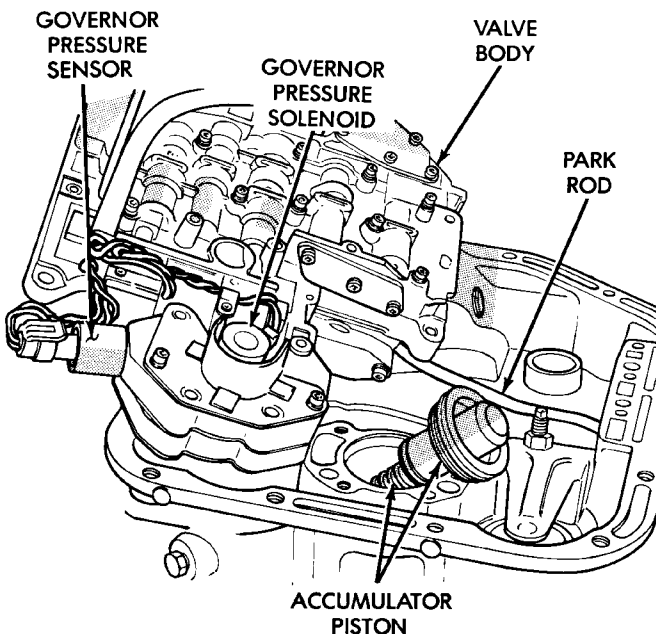

Fig. 127 Accumulator Piston And Springs
(30) Install accumulator piston and inner and outer springs (Fig. 127).
(31) Verify that valve body solenoid harness is secured in 3-4 accumulator housing cover plate.
(32) Install valve body as follows: